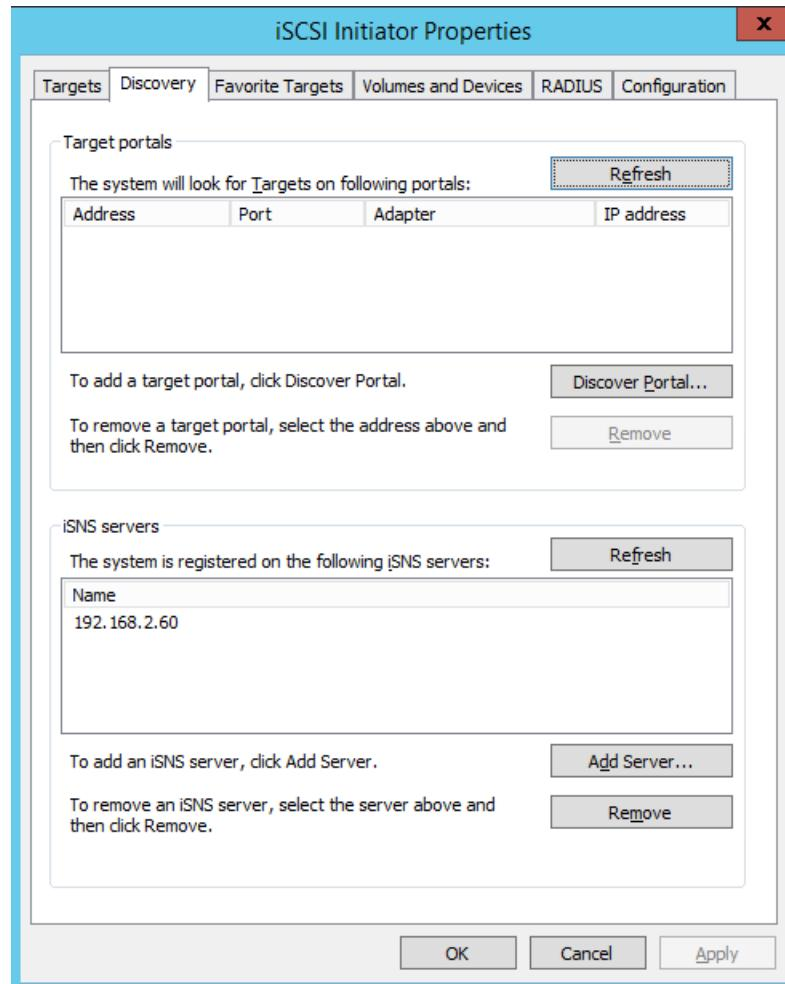

Figure 9-21. iSCSI Initiator—Discover Target Portal
4. On the Discovery page (Figure 9-21) under **Target portals**, click **Discover Portal**.